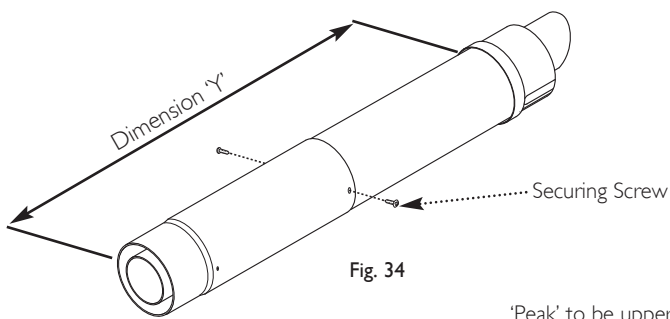
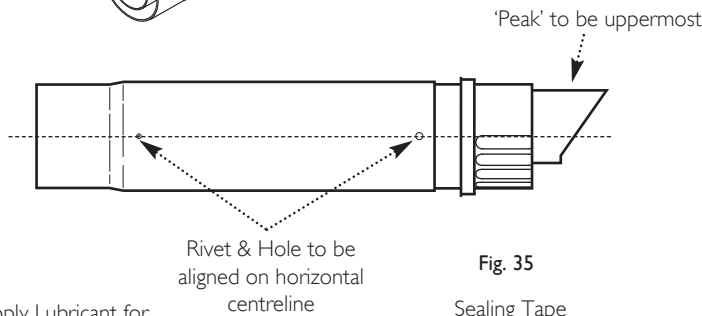
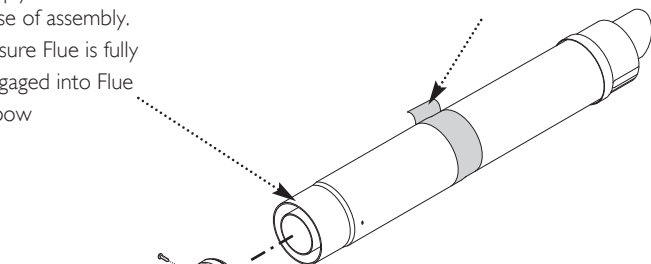
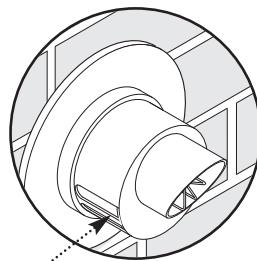

Fig. 34
Fig. 35
Fig. 36
Fig. 37
8. Adjust the two telescopic sections to dimension 'Y' (Fig. 34). Ensure that the rivets and holes in the Connection Assembly are aligned horizontally (Fig. 35).
9. Using a 2mm bit, drill through the holes at the end of the Connection Assembly into the Terminal Assembly and secure them together using the screws supplied (Fig. 34). Seal the joint with the tape provided (Fig. 36).
10. Remove the flue elbow and insert the flue through the hole in the wall. Refit the elbow to the boiler adaptor, ensuring that it is pushed fully in (Fig. 36).
11. Draw the flue back through the wall and engage it in the elbow. It may be necessary to use soap solution or similar to ease assembly of the elbow adaptor and flue (Fig. 36).
12. Ensure that the terminal is positioned with the slots to the bottom (Fig. 37). Secure the flue to the elbow with the self drilling screws supplied (Fig. 36).